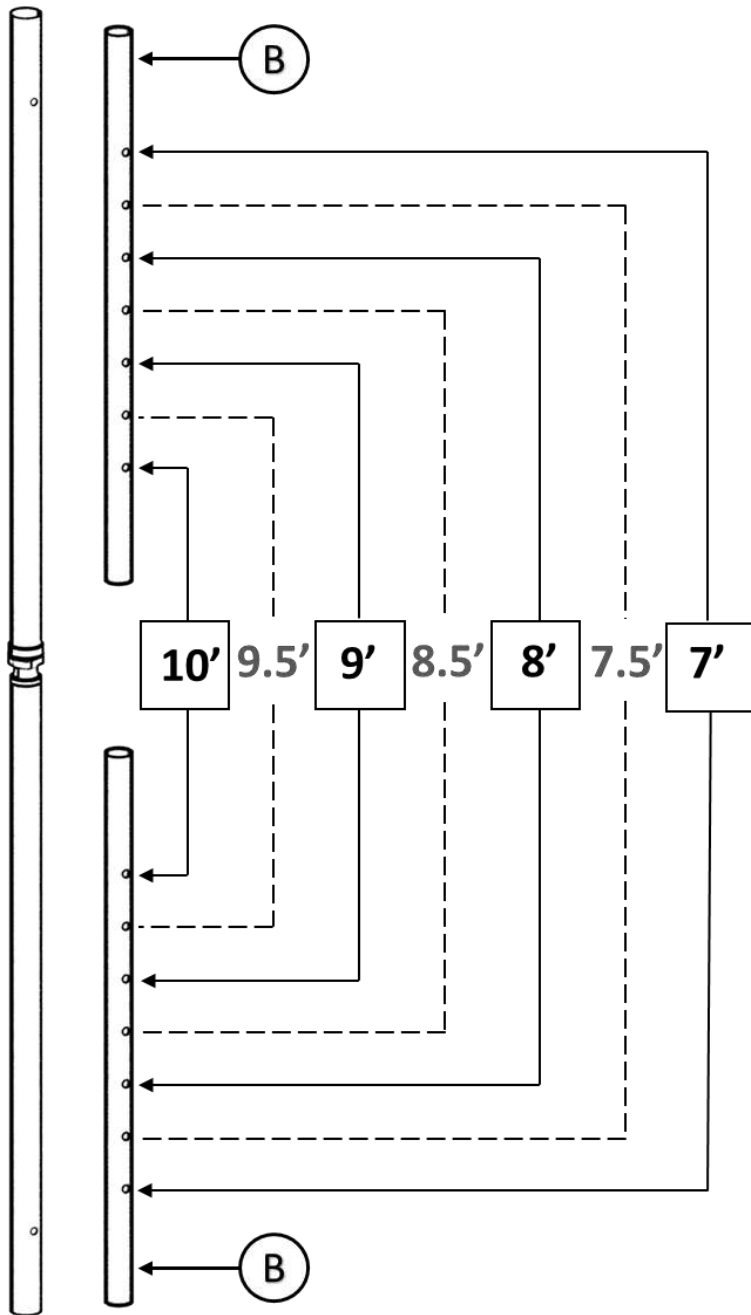

FIGURE 3
3. Determine height between the floor and ceiling and use the chart in *FIGURE 3* to determine the appropriate hole in **B** and continue to **Step 4**.